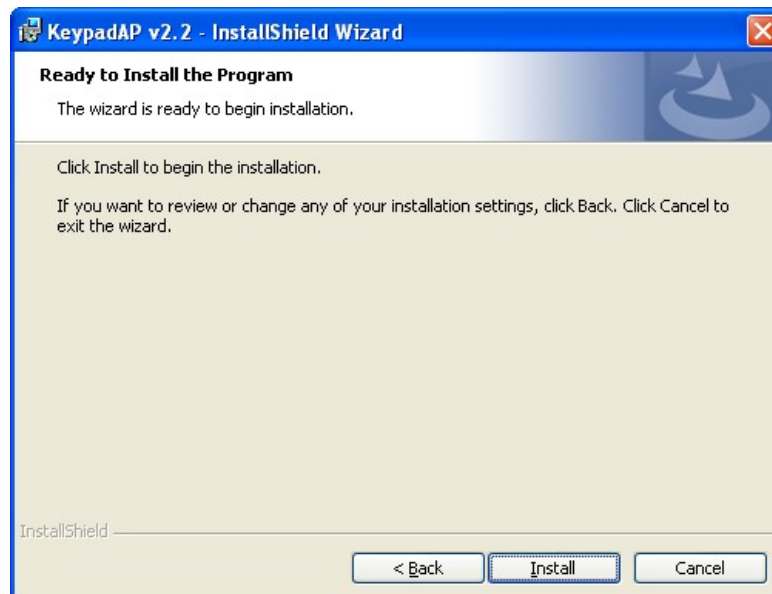

Figure 6-36: Ready to Install the Program
Step 9: Click **INSTALL** to continue (**Figure 6-36**).